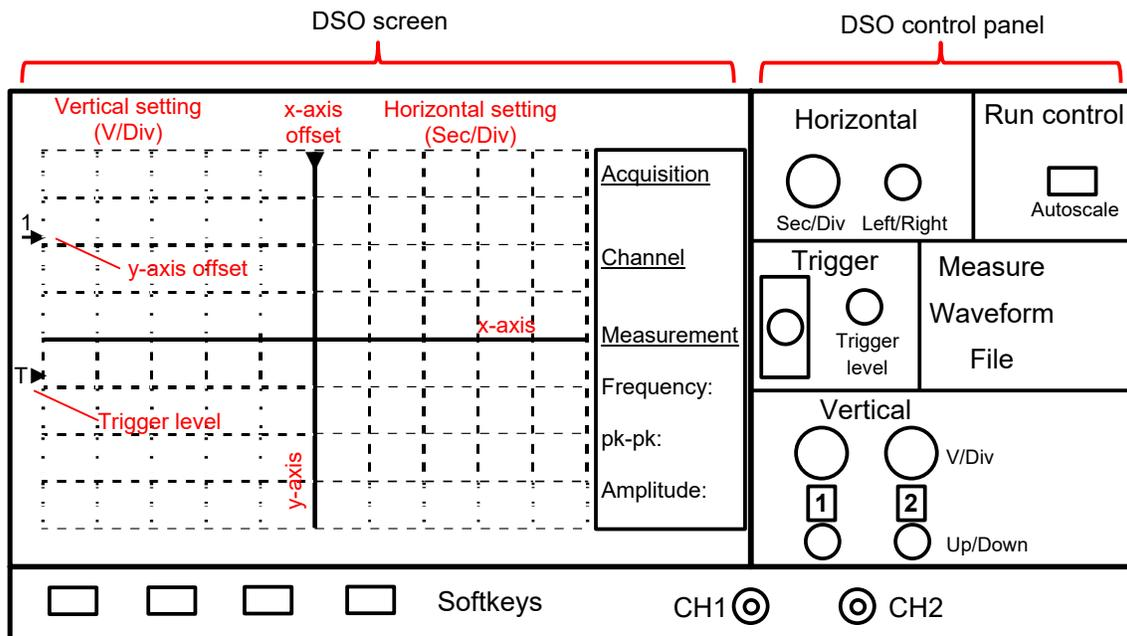

Fig. 4: DSO screen and control panel for DSO-X 2002A. For TDS 2014B, refer to the actual unit
1. Switch ON both FG and DSO by pressing their main switch button. On DSO screen, after loading, you will see two lines; one is for CH1 and the other for CH2. Press CH2 button on the DSO (marked with 2)-refer to Fig. 4) until the CH2 line disappears.
8. On the FG, turn the 'AMPLITUDE' control knob until the pk-pk voltage shown on the DSO screen is 10V pk-pk (under 'Measurement' window – refer to Fig. 4).